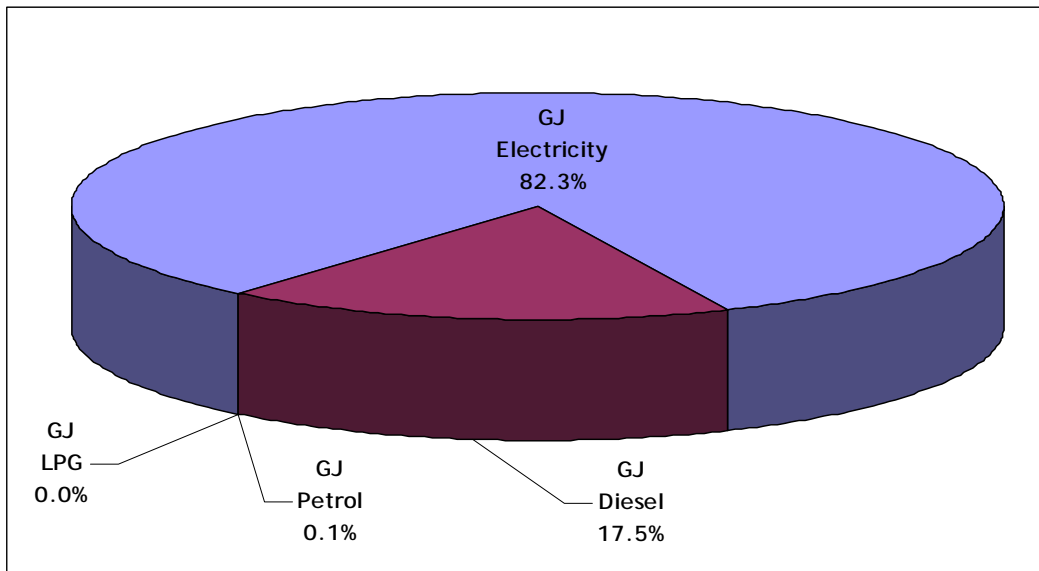

Figure 1: Energy Profile - 2005
**Figure 1** presents NPM's energy profile for 2005. Electricity is the largest energy type consumed, representing 82% of total energy consumption. Grid electricity is supplied by Energy Australia for NPM's mining and milling activities (NMI reference number NTTTTW0RU20 and account number 832 939 566). Other electricity (e.g. for company houses in Parkes) is supplied by Country Energy (NMI reference number 40011154329 and customer reference number 294572-4).